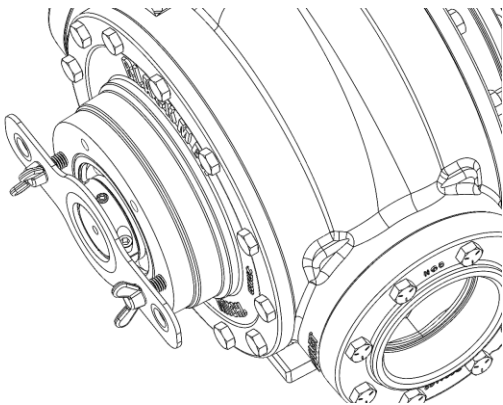
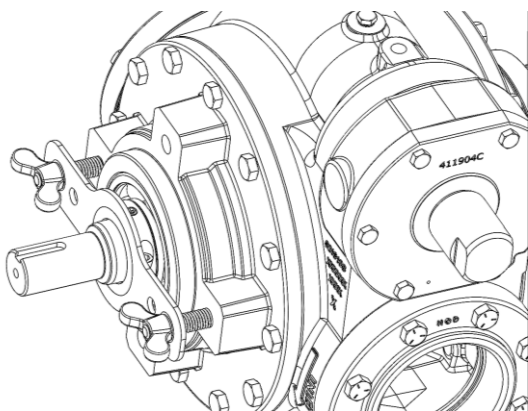

Figure 10 – Lock Collar Assembly, Outboard
Figure 11 – Lock Collar Assembly, Inboard
- b. Starting with the Outboard side of the pump, attach the Lock Collar Adjustment Tool to the Outboard Head (23). See Figure 10. Align the inner hole pattern of the tool with the corresponding tapped holes in the head. Ensure that the large center hole of the tool is centered on the shaft.
- c. Slowly turn the Lock Collar Adjustment Tool screws, which will move the Lock Collar and Bearing towards the Outboard Head (23). Alternate between each screw so that even pressure is applied to the Lock Collar. Once the Bearing (24) stops moving into the head, is slightly recessed in the head bore, and the force required to turn the screws increases stop turning the screws.
- g. Move Lock Collar Adjustment Tool to Inboard side and repeat steps 12a through 12f. See figure 11 for Inboard Side tool assembly.